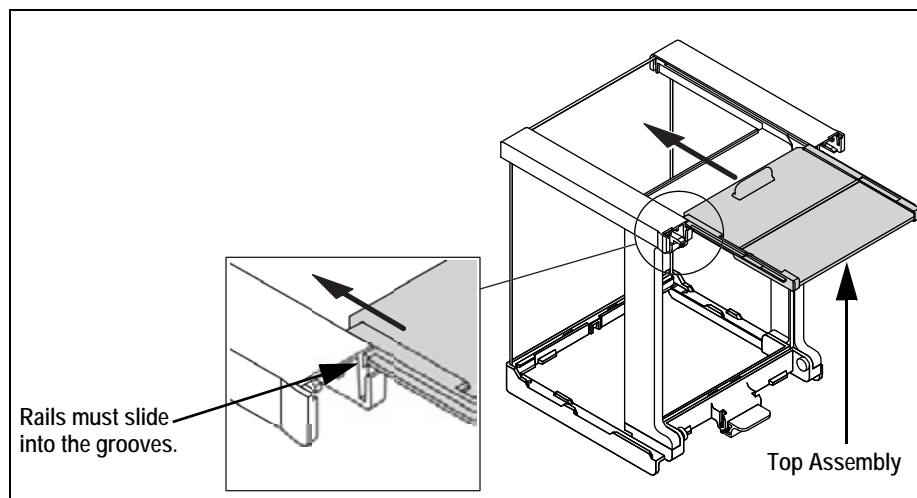

Figure 2-11. Install Top Panel
9. Slide the top glass assembly, with the handle towards the front, into the top brackets as shown in Figure 2-11. Ensure the side rails of the top assembly are in the grooves in the top brackets.